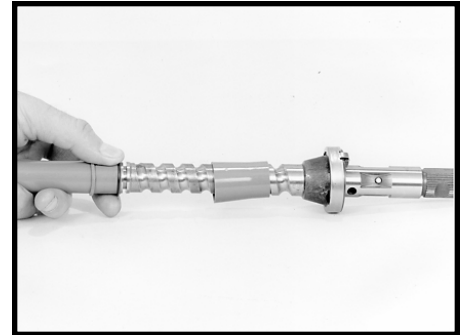
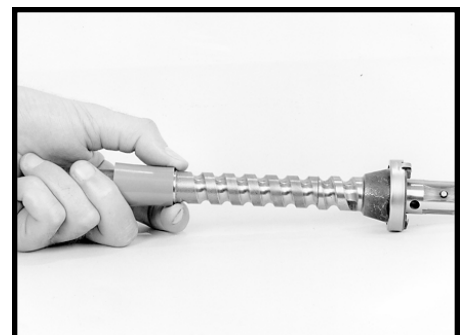

Figure 96
Figure 98
- Slide compression tool J26649, small diameter end first, onto the worm end of worm shaft/input shaft (17) until it is beyond the seal ring groove. Using seal installation tool J26550-01 assemble the new worm shaft O-ring (18), and then the new seal ring (19). SEE FIGURES 96, 97. Next, compress the seal ring by pulling the compression tool back over the seal ring. Allow the worm shaft/input shaft to set with compression tool in place for at least ten minutes. SEE FIGURE 98.